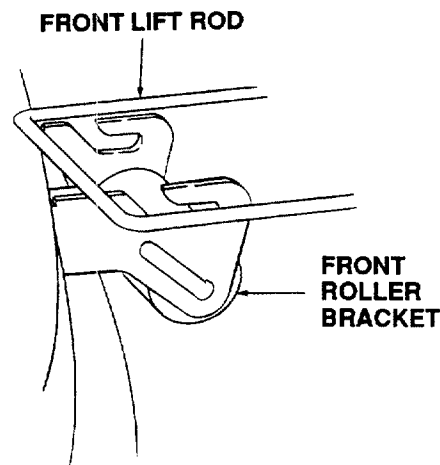

Figure 45
7. Raise the tractor implement lift handle to its highest setting. Slide the mower deck forward so the front lift rod rests to the rear of, and free of, the front roller bracket slots of the deck (Refer to Figure 45).